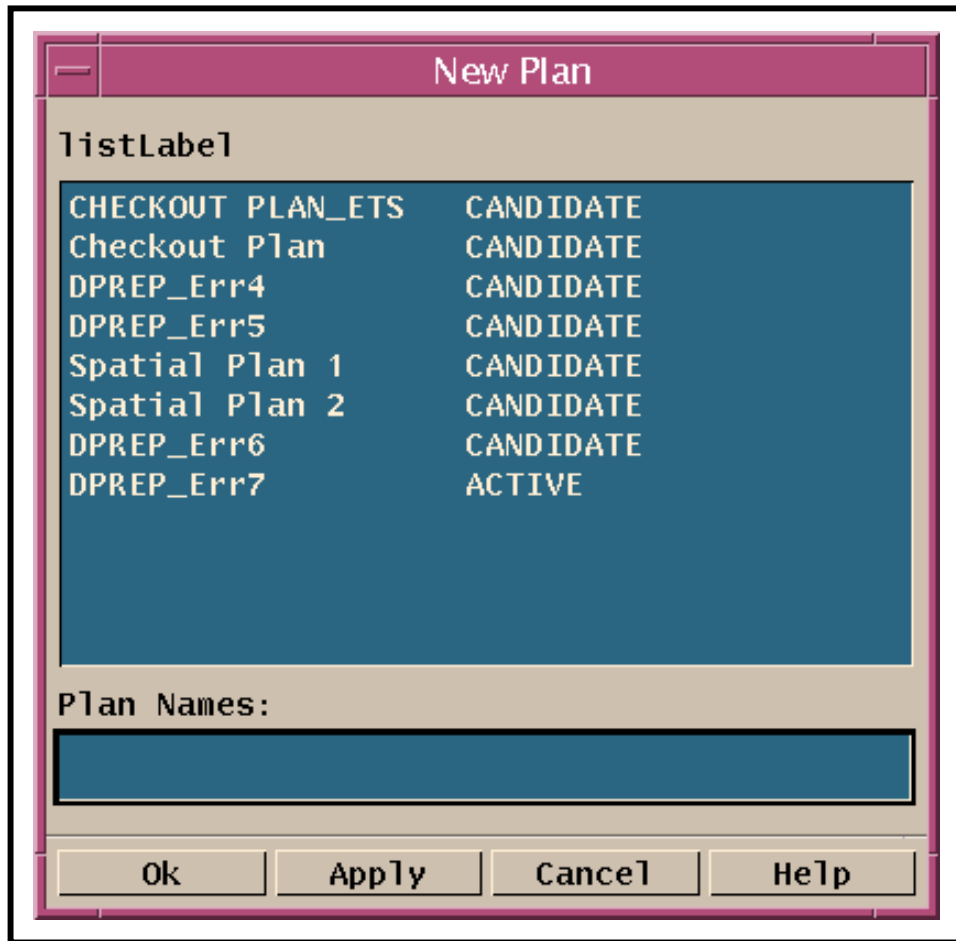

Figure 45. Planning Workbench New Plan Window
- The **New Plan** window (Figure 45) is displayed.
- Except for the title, the **Save Plan** window looks the same as the **New Plan** window (Figure 45).